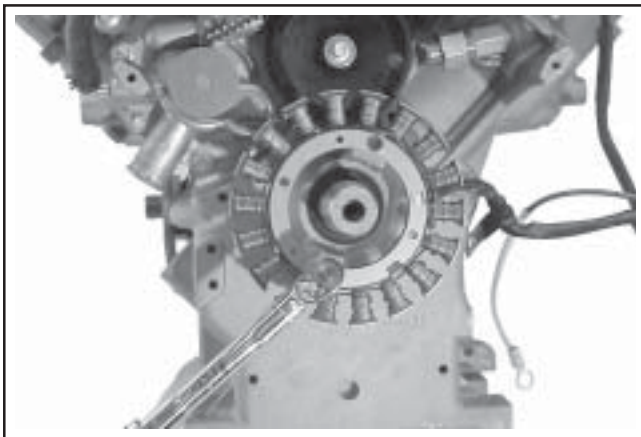

Figure 11-63. Torquing Stator Screws.
1. Place a small amount of **pipe sealant with Teflon®** (Loctite® 59241 or equivalent) into the holes for the two stator mounting screws. Position the stator assembly onto the mounting studs so the leads are at the bottom, and directed out toward the #1 side, in the 3 o'clock position. Align the mounting holes and install the two hex flange screws. Torque each screw to **6.2 N·m (55 in. lb.)**. See Figure 11-63.